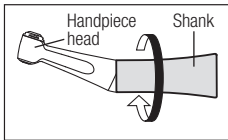

Fig. 16
❶ Perform the steps from “7–1 Cleaning at point-of use” to “7–4 Packaging, Sterilizing, and Drying”.
❷ Detach the shank by turning it counter clockwise and remove the handpiece head from the shank (Fig. 16).